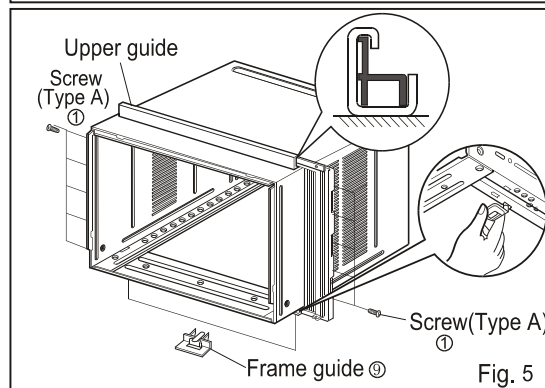

Fig. 5
7. Fasten the curtains to the unit with 8 Type A screws.(Fig.5)